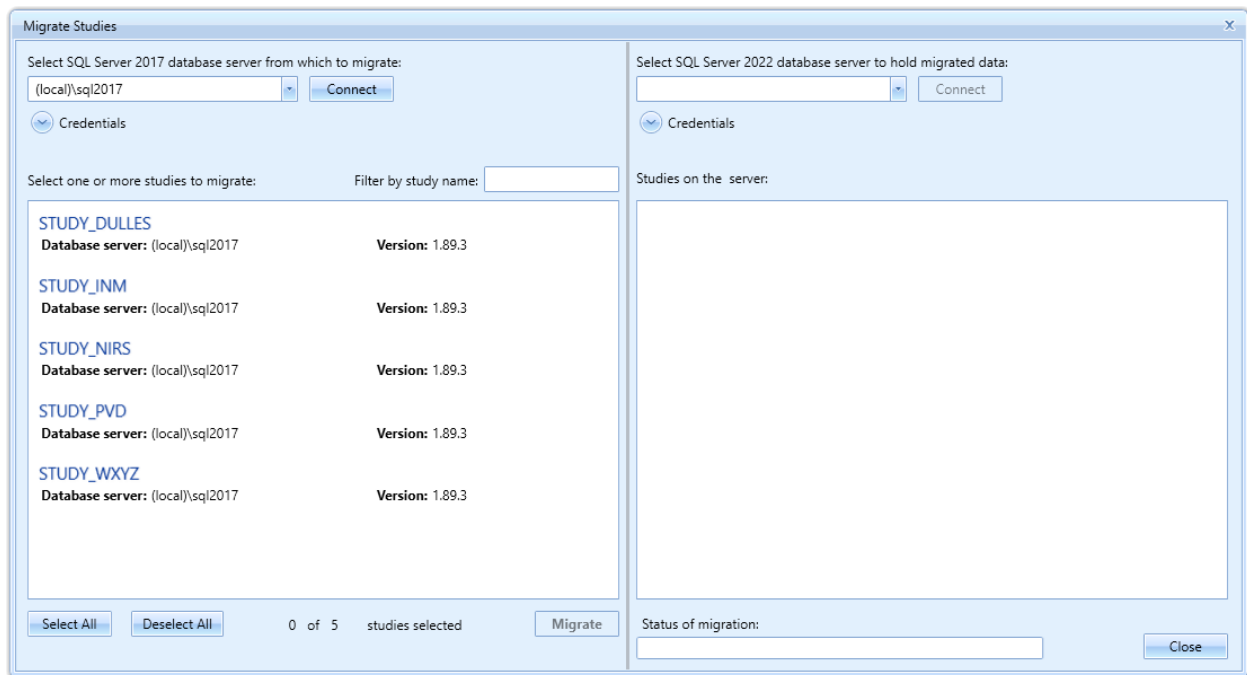

Figure 4-3 Migrate Studies Dialog
1. Click the *Study* tab and click *Migrate* to display the *Migrate Studies* dialog (Figure 4-3).